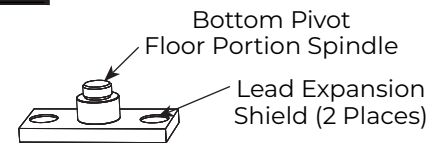

Figure 6
1. Install floor portion of bottom pivot securely to floor using two (2) 1/4-20 x 3/4" FHMS or #14 x 1-1/2" FHWS and provided lead expansion shields. (Figure 6)